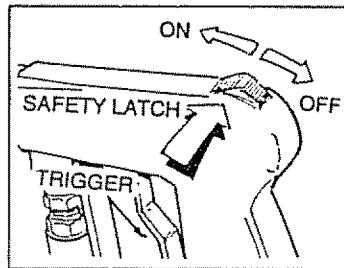

FIG. 14
- Adjust safety latch to the ON position. This disables the trigger so you cannot inadvertently actuate a high pressure spray (Fig. 14).